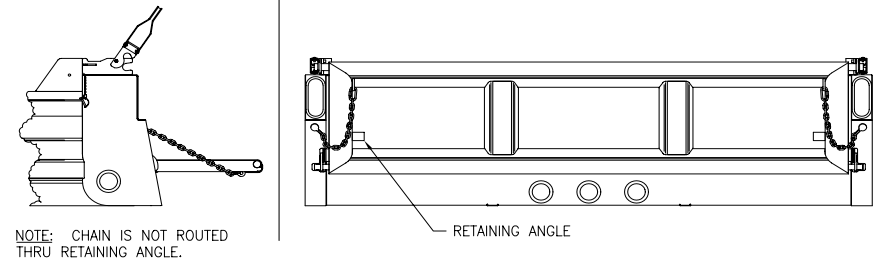

FIGURE 4
4. The amount the tailgate will open top down can be limited by using the tailgate chains. In limiting the amount the tailgate opens top down, a chain on each side of the tailgate is run directly to its respective chain slot located on the rear corner posts as shown in Figure 4.